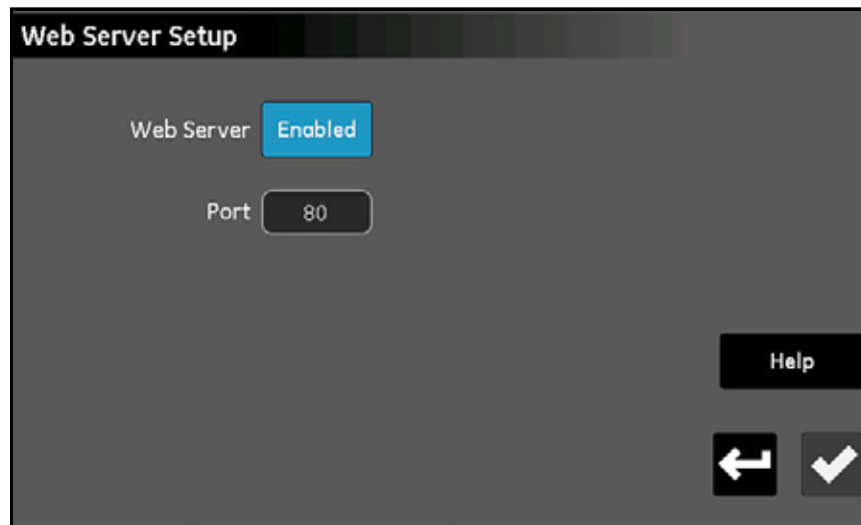

Figure 65: Web Server Setup Screen
1. From the *Configuration Menu* screen (see *Figure 47 on page 53*), tap the Web Server button to open a *Web Server Setup* screen similar to *Figure 65* below.